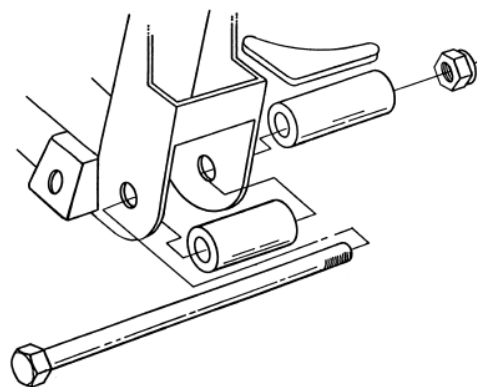

Figure 2- Install Spacers
4. If you purchased a complete I.F.S. Package from *HEIDTS*, it was supplied with Full Lower A-Arms. Begin by installing the Spacers onto the crossmember. The holes where the lower control arms attach to the Crossmember must be enlarged to 5/8". Mount the Crossmember Spacers and the Rear Spacers which were supplied with the Lower Control Arms onto the Crossmember as shown in **Figure 2** using the supplied Inner Bushing Bolts, Nuts and a temporary spacer under the Nuts. **DO NOT** use the A-Arms for this operation as the welding heat will melt the rubber bushings. Tighten the Bolts and Nuts tight. Weld the Rear Spacers to the Crossmember all around. Weld the Crossmember Spacers as far as possible inside the crossmember on both ends. Position the Gussets horizontally, not vertically, against the Rear Spacers and the back of the Crossmember. Weld Gussets to Spacers and Crossmember. When it cools, remove the bolt.